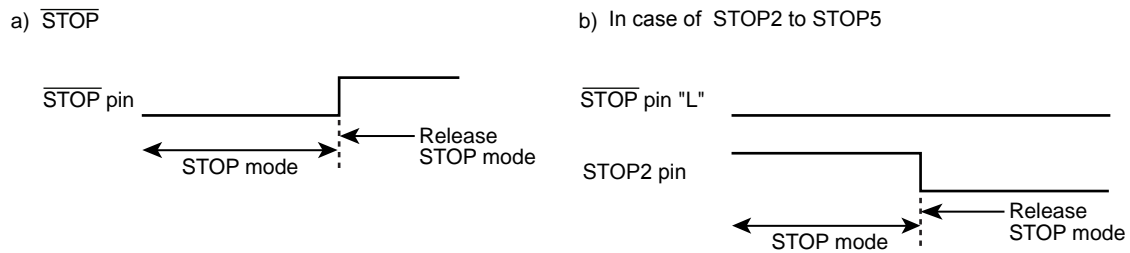

Figure 15-3 Priority of $\overline{\text{STOP}}$ pin and STOP2 to STOP5 pins
- Note 6: When the STOP mode is released by STOP2 to STOP5 pins, the level of $\overline{\text{STOP}}$ pin should hold "L" level (Figure 15-3).